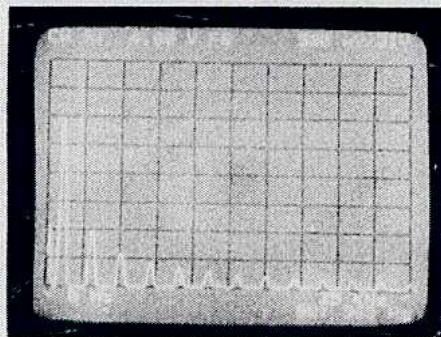

Figure 3-6. Full Scale Reference in the LINEAR Mode.
h. Press the LINEAR scale button and observe that the maximum allowable input signal on the 3 V range does not produce a full scale display. Notice that the calibrated reference level is 4 V (see Figure 3-6).